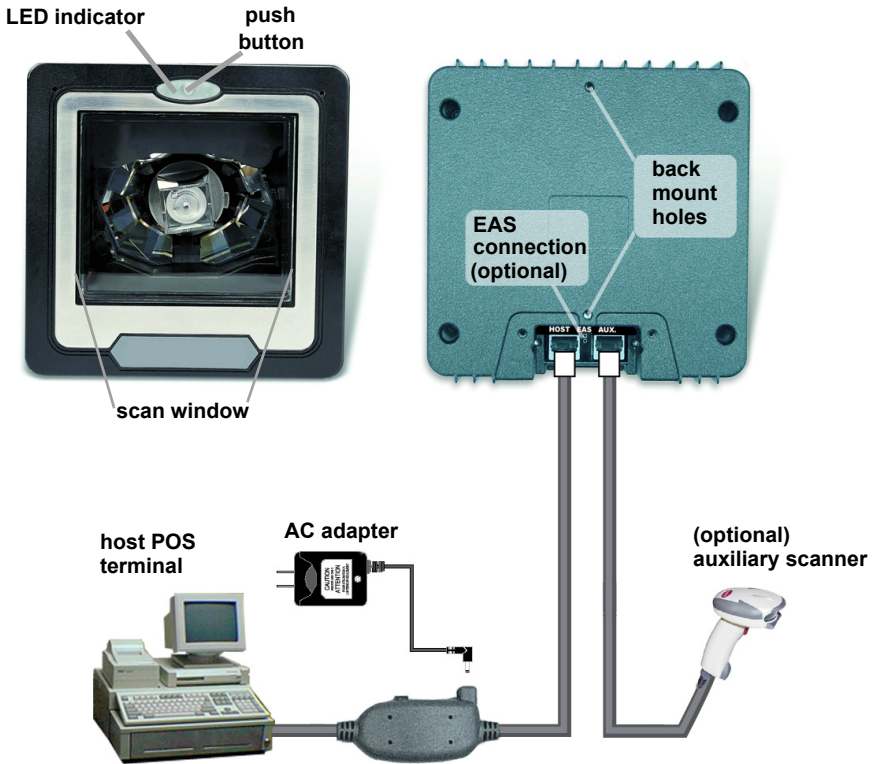

Figure 1: Overview
3. Plug the power adapter into the jack on the power link cable. (See Figure 1.)
If desired the scanner may be mounted to your own custom bracket using the threaded mounting holes on the back. (See Figure 1.) The mounting holes are threaded to accommodate M4 x 0.7 machine screws to a depth of 5.0 mm.
3. For those cases where external power is used, plug the external AC power adapter into the jack on the interface cable. (See Figure 1.)